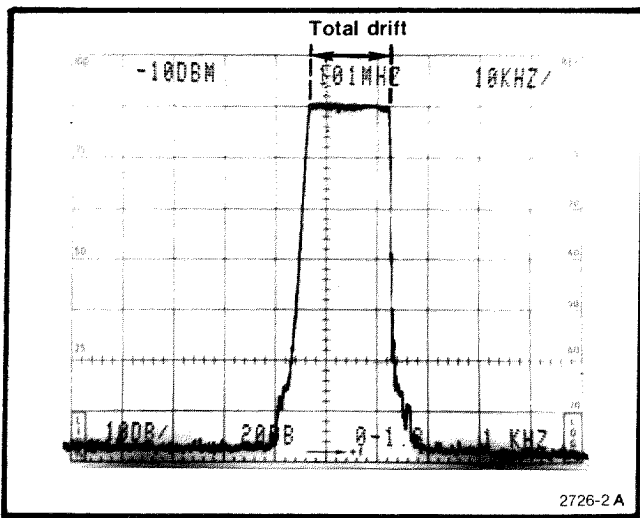

Fig. 3-6. Typical display using digital storage with MAX HOLD activated, to measure drift.
e. Check frequency drift over the specified period. If the instrument has digital storage, activate MAX HOLD to observe drift (see Fig. 3-6). If the instrument does not have digital storage, measure drift by observing the drift of the marker over the time period.